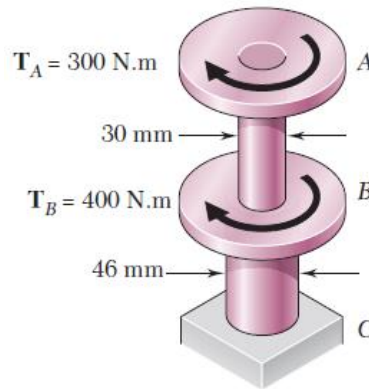

Fig. Q4
4. The torques shown (Fig. Q4) are exerted on pulleys A and B which are attached to solid circular shafts AB and BC. In order to reduce the total mass of the assembly, determine the smallest diameter of shaft BC for which the largest shearing stress in the assembly is not increased. [7]